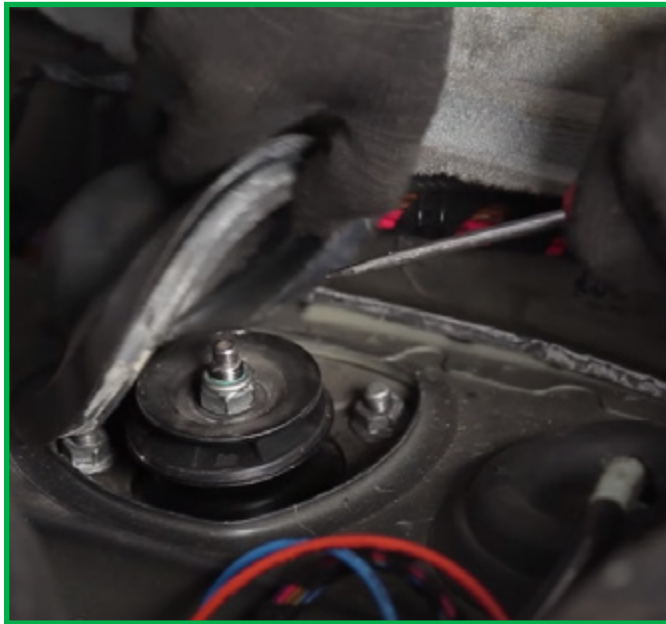

FIGURE 22
2. Locate and remove the rubber cap covering the top shock mount bolts. (Figure 22)